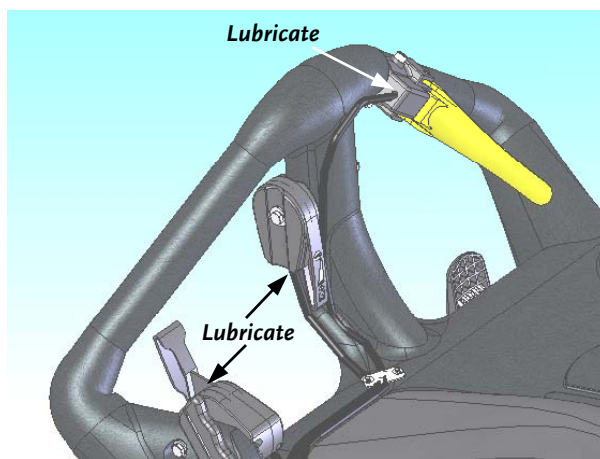

Figure 18
1. Lubricate the Throttle Control Cable, \*Drive Clutch Cable and the \*Gear Shift Cable (**Figure 18**) with FLUID FILM® or comparable lubricant. Spray the lubricant into the cable housing while working the cable back and forth a few times.